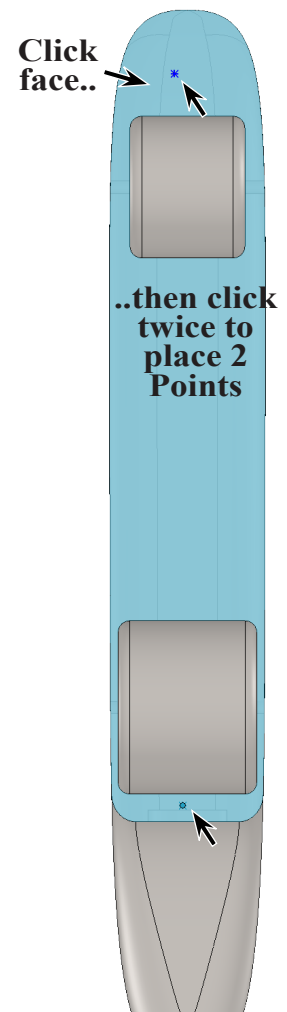

Fig. 20
Step 5. Click **bottom face of Body** one time as face for holes, then click to place hole forward of front wheel shell and another just behind rear wheel shell, Fig. 20.